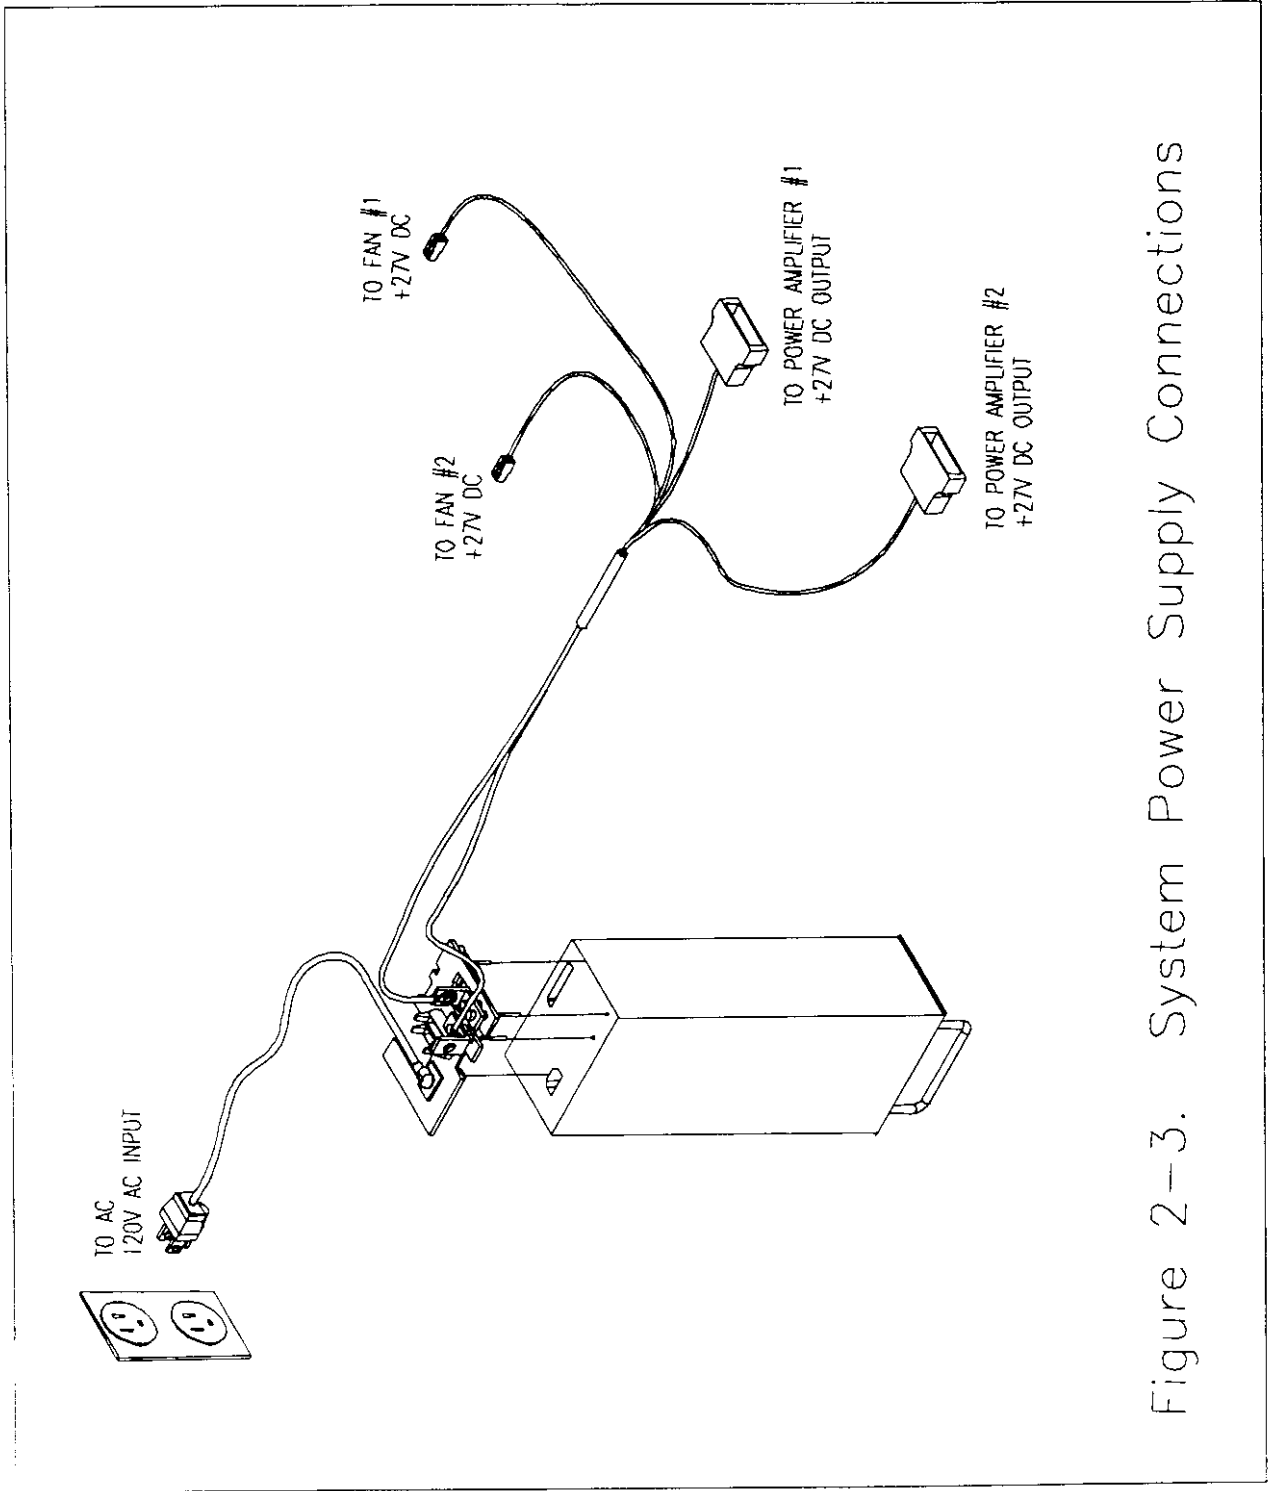

Figure 2-3. System Power Supply Connections
5. See figure 2-3: attach each fan connector from power supply to each fan on the minirack.
15. See figure 2-3: connect each +27 Vdc power cable from power supply to each amplifier module.